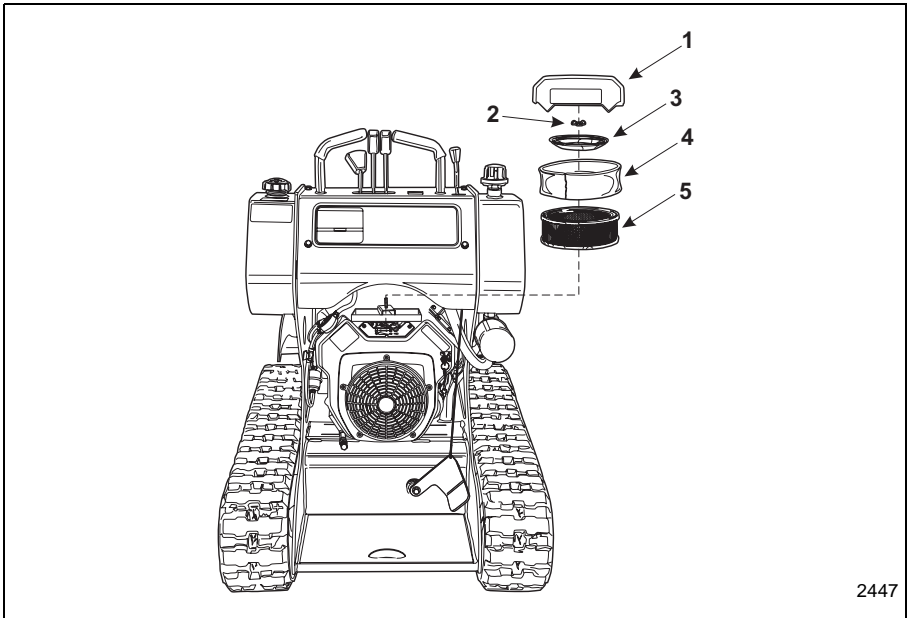

Figure 4-12 Air Filter Assembly
- b. Remove the air filter cover (Item 1, **Figure 4-12**) and the outer air filter sleeve (Item 4, **Figure 4-12**).
- c. Loosen and remove the wing nut (Item 2, **Figure 4-12**) holding the air filter top plate (Item 3, **Figure 4-12**).
- d. Remove and replace the filter (Item 5, **Figure 4-12**), and outer air filter sleeve (Item 4, **Figure 4-12**) with a genuine BOXER repair parts.